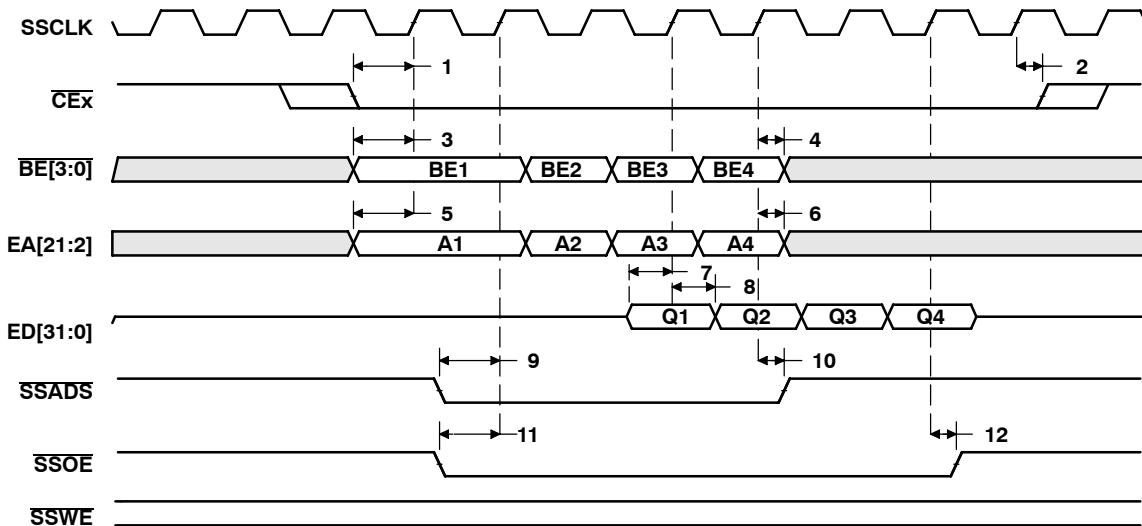
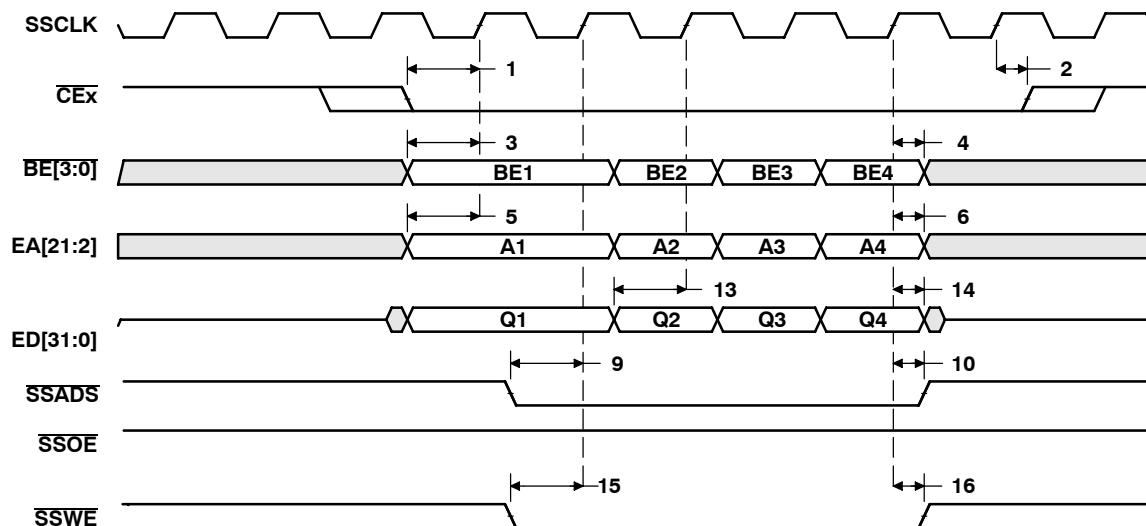

Figure 19. SBSRAM Read Timing (1/2 Rate SSCLK)
Figure 20. SBSRAM Write Timing (1/2 Rate SSCLK)
**timing requirements for synchronous-burst SRAM cycles (half-rate SSCLK) (see Figure 19)**
**switching characteristics over recommended operating conditions for synchronous-burst SRAM cycles† (half-rate SSCLK) (see Figure 19 and Figure 20)**